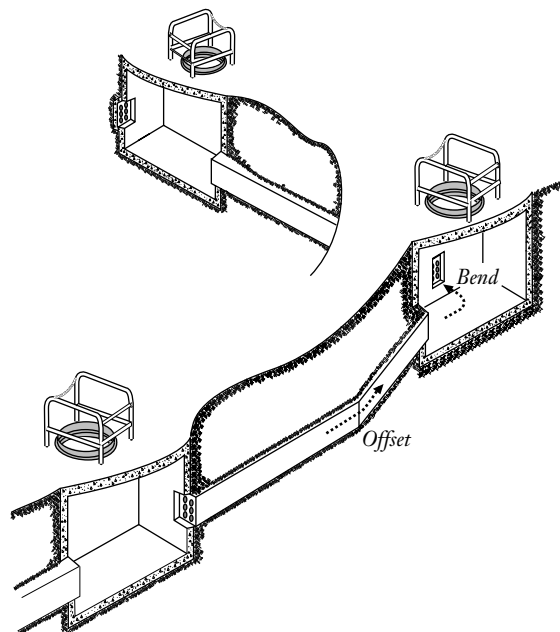

Figure 5 Offset and bend
3.6 Factors to consider in developing the pull plan include changes in elevation and the locations of bends and offsets (Figure 5).